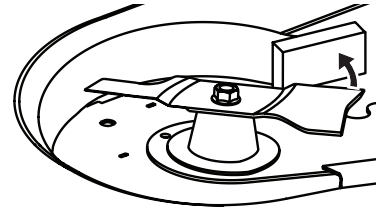

Figure 62
1. Secure the blade from turning counterclockwise during service by placing a block of wood between the blade and the deck housing (Figure 62), or wrap a rag around one end of the blade and wear heavy gloves to grasp the blade firmly.